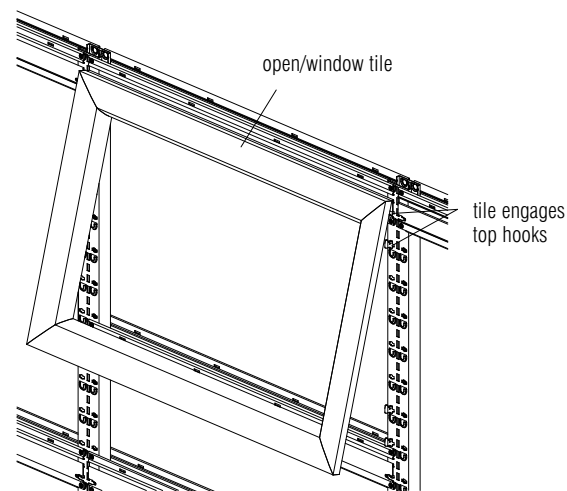

Figure 72
1. With the tile hooks already in place on the frame (See **Installing Tile Hooks on page 13**), hang the tile on the top four hooks. **Figure 72.**